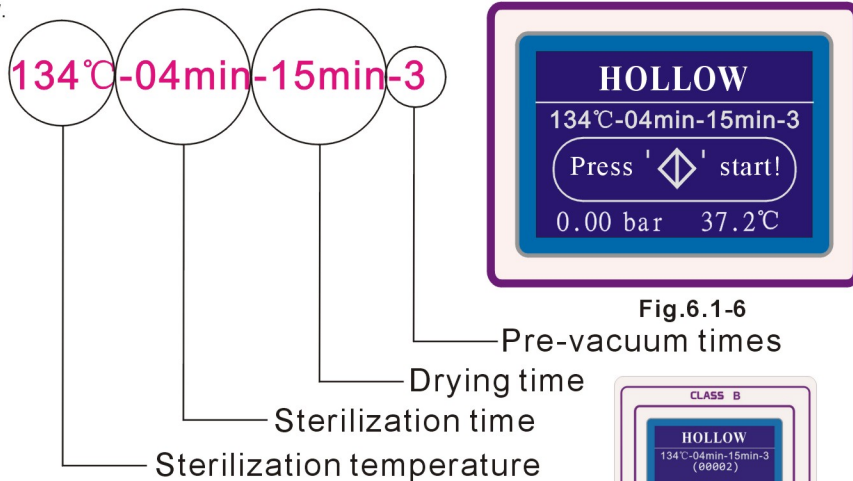

Fig.6.1-6
6.1.7 put the instruments in, close the door to right position, according to requirement program, when LCD show “Press ‘◇’ start!” (Fig.6.1-6), you press “START/STOP” button, you will hear “ka” to inform you that the electricity lock point reaches knob, then you can operate program automatically.